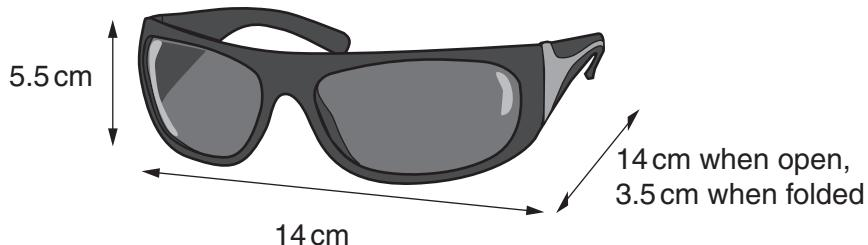

Fig. 5
- 4 Fig. 5 shows a pair of sunglasses.